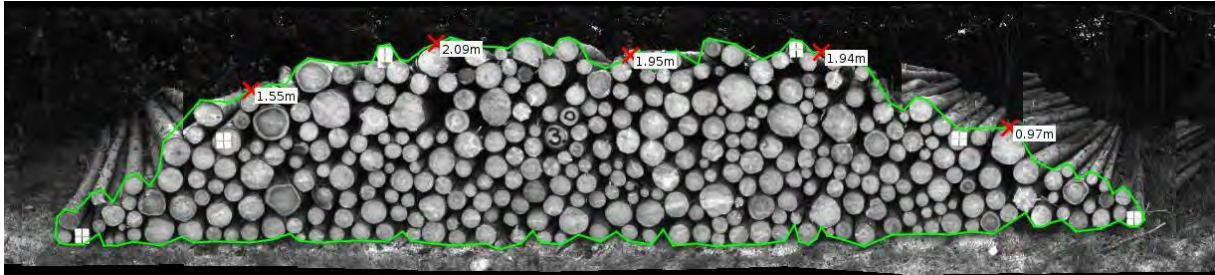

Figure 28: Exemplary representation of the picture of a data record with the front area describing green polygonal course
- 1) Based on reference areas (see Figure 28) on woodpiles, it is checked under conditions that are representative of the entire area of application of the system, whether the measurements lie within the legal calibration error limits.